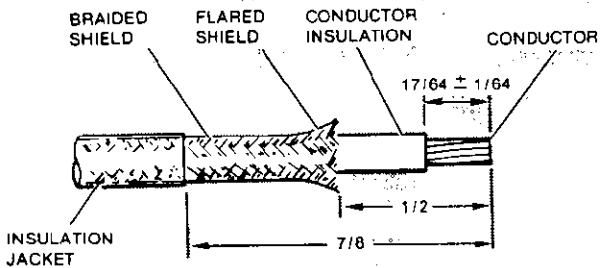

Figure 2
- Strip shielded wire to dimensions shown in Figure 2.
- Flare end of braided shield as shown in Figure 2.